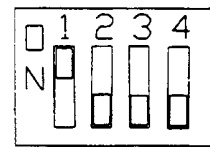

Figure 5-6
4. For operation in the southern hemisphere, set switch 4 to the OFF or down position (see Figure 5-6).